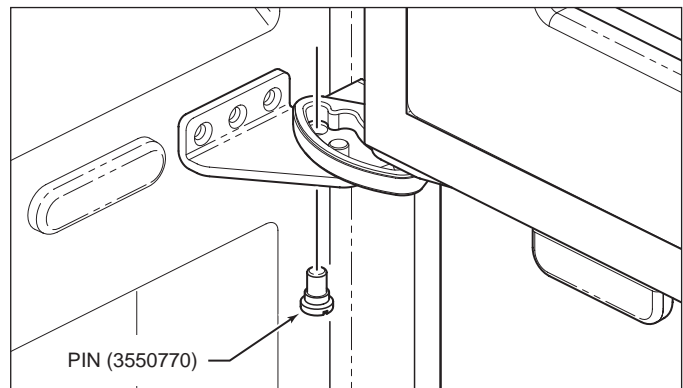

**Figure 2-14. 90° Stop Pin (611-2, 650-2)**
- b. With door closed, insert door stop pin down into threaded hole in top cabinet hinge and tighten (See Figure 2-14). Then, reinstall unit grille.